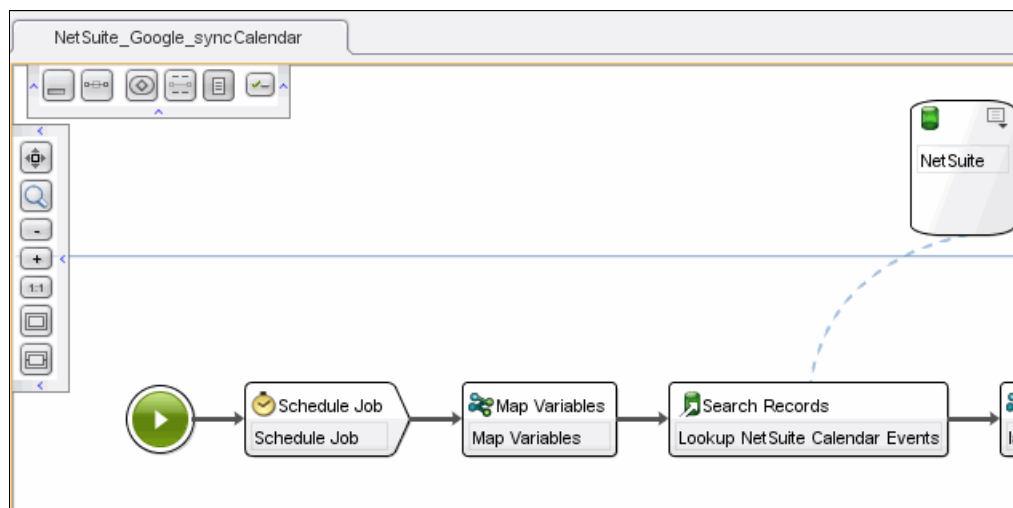

Figure 11-17 NetSuite\_Google\_syncCalendar orchestration open in the Studio workspace
1. The project has multiple orchestrations. Ensure that you have the primary orchestration, NetSuite\_Google\_syncCalendar, open in the workspace, as shown in Figure 11-17. If the primary orchestration is not open, go to the Project tab on the right, and then under Orchestrations, double-click the **NetSuite\_Google\_syncCalendar** orchestration to open the orchestration to a tab on the workspace.